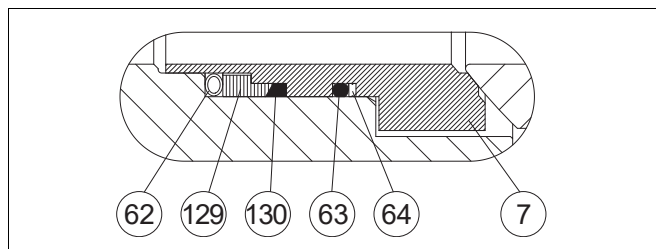

Fig. 12 S seat
- ❑ Place the back seal (O-ring) (63) into the groove in the seat. See Figure 12.
- ❑ Place the back-up rings (64) made of PTFE strips at the side of the O-ring. To ensure that the seam becomes flexible, the strip must have slanted ends.
- ❑ For easier assembly, lubricate the O-ring and back-up ring surfaces facing the seats with silicone grease or another suitable substance. Please ensure the compatibility with the flow medium. Place the backseal (130) and ring (129) on the seat.
- ❑ Place the spring (62) on the seat (7). Connect the ends of the spring.